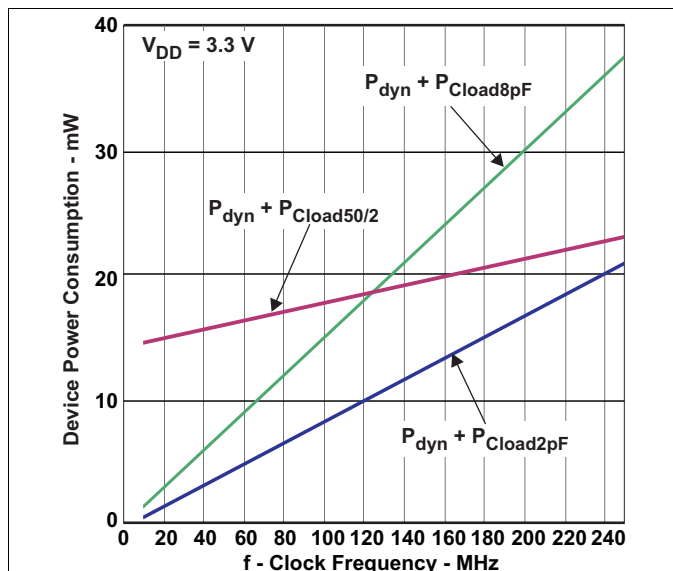
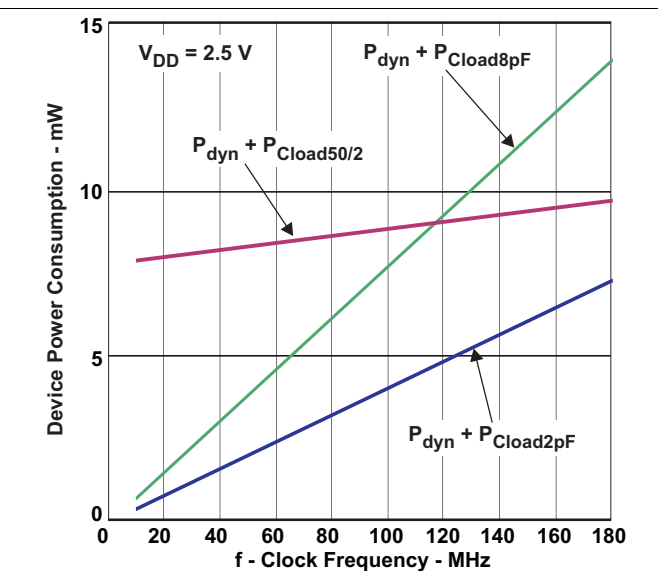

Figure 1. Device Power Consumption vs Clock Frequency (Load 50 Ω into $V_{DD}/2$; 2 pF, 8 pF; Per Output)
Figure 2. Device Power Consumption vs Clock Frequency (Load 50 Ω into $V_{DD}/2$; 2 pF, 8 pF; Per Output)
- (2) For dynamic I_{DD} over frequency see Figure 1 and Figure 2.
- (3) This is the formula for the power dissipation calculation (see Figure 1 and the Power Consideration section).
The output load can be capacitive only or capacitive and resistive. The following formula and the power graphs in Figure 1 and Figure 2 can be used to obtain the power consumption of the device:
$$P_{\text{dyn}} + P_{\text{Cload}} = \text{see } \text{Figure 1} \text{ and } \text{Figure 2}$$